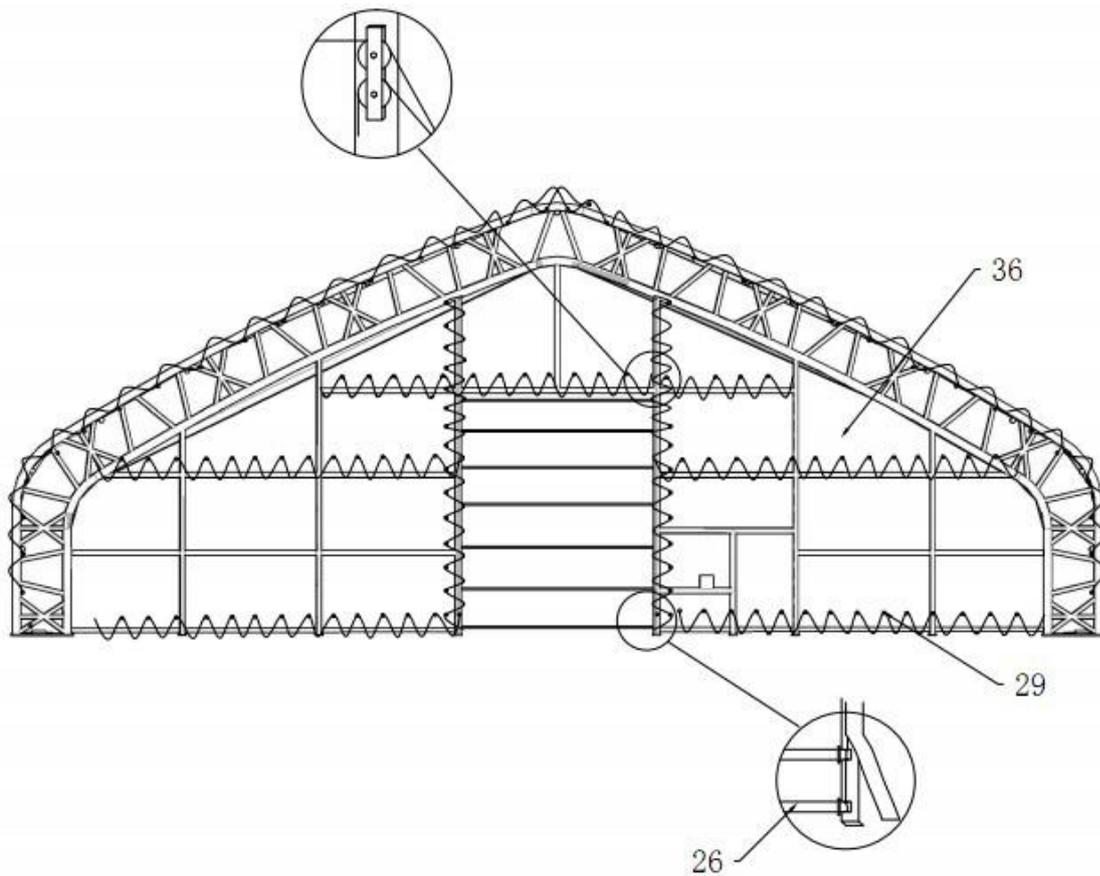

Figure 6
1. Assemble the front door by using Bolt 10x30, and Clip, Fix it by using Rope to tubes.(Figure 6)